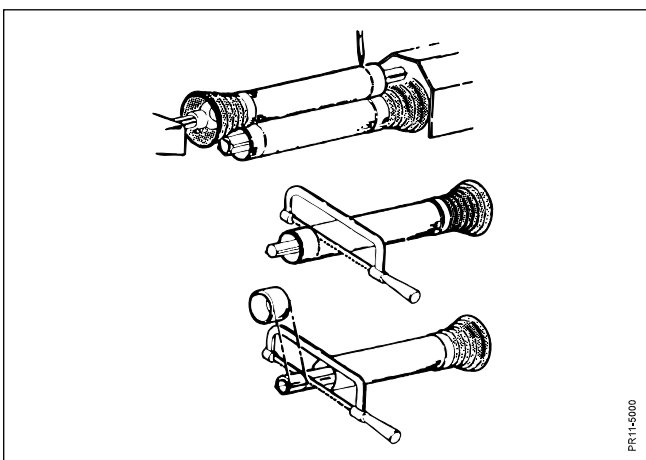

Fig. 2-11
- Fig. 2-11** Fasten the PTO drive shaft half parts to the PTO and the PIC, respectively, when these are at the same horizontal level and opposite each other and the machine is in working position (as regards this machine the longest distance). Keep the shaft ends parallel to each other and mark the wanted shortening, however with min. 200 mm overlapping. Shorten all 4 tubes equally much. The profile tube ends must be rounded and any burrs must be removed carefully. It is very important that the tubes are completely smooth and clean before they are greased. Grease the tubes before they are re-assembled.